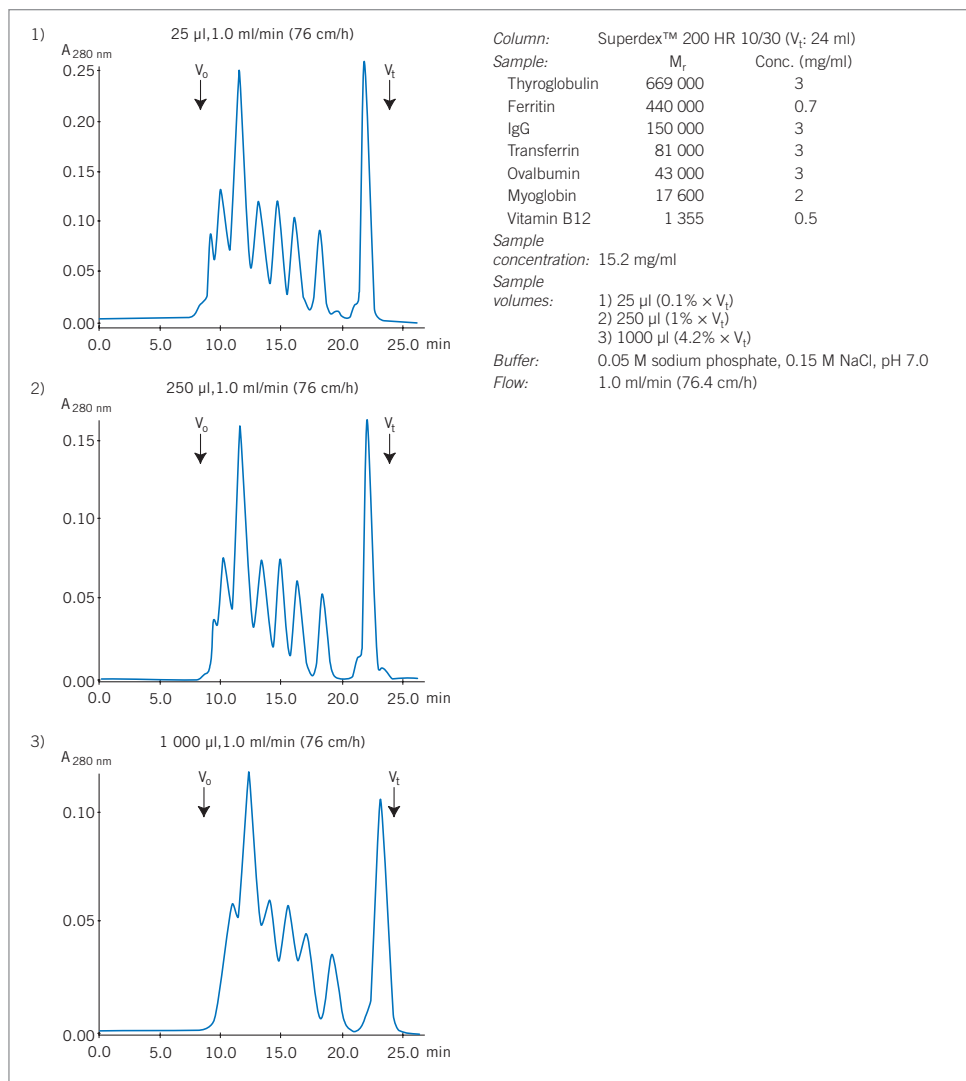

Fig. 7. Influence of sample volume on resolution.
*Sample volumes* are expressed as a percentage of the total column volume (packed bed). Using smaller sample volumes helps to avoid overlap if closely spaced peaks are eluted. Figure 7 illustrates how sample volume can influence a high resolution fractionation.